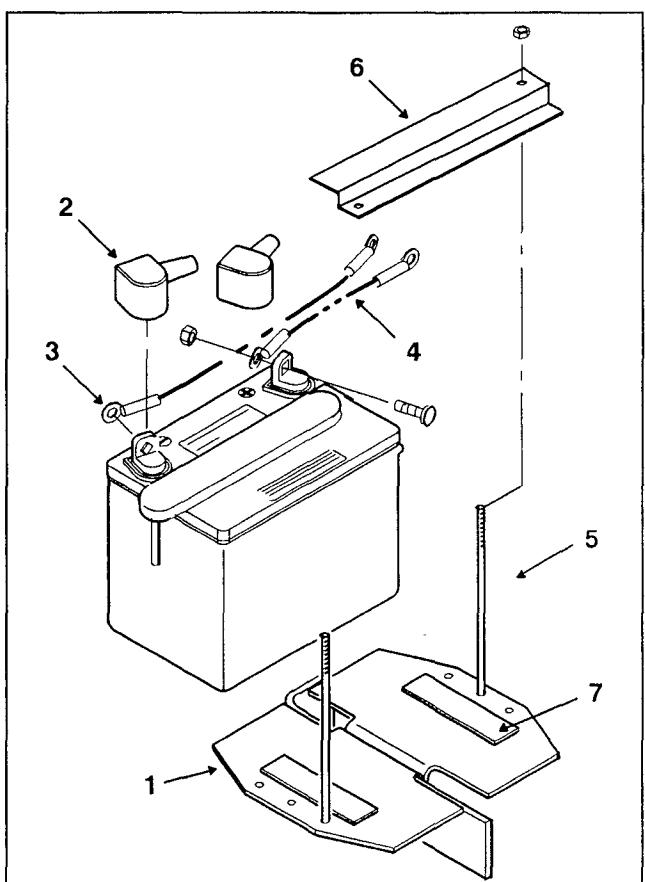

Figure 7
7. Mount battery to holders with (2) support rods, battery clamp and (2) locknuts. Position support rods in mounting holes as shown in fig. 7. Tighten locknuts so battery is held securely in position and will not slide. DO NOT OVERTIGHTEN.